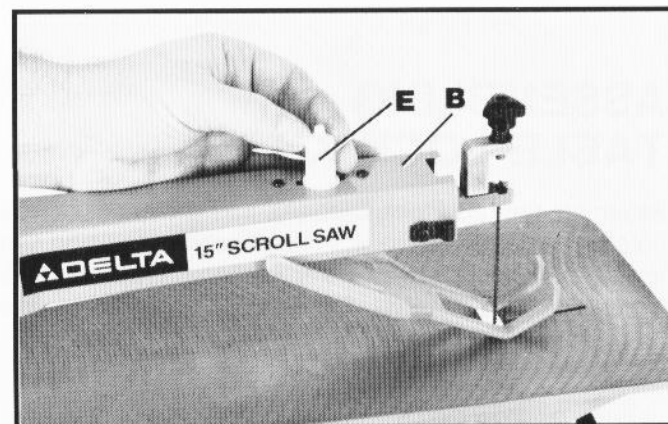

Fig. 8
4. Apply light downward pressure to plug housing (E) Fig. 8, and rotate plug housing (E) 90 degrees left or right to lock plug housing into upper arm guard (B).